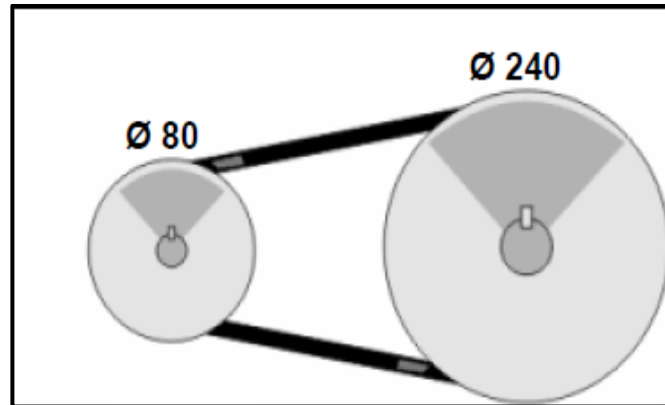

FIGURE 4.12
4.12 What is the velocity ratio of the pulley system in FIGURE 4.12 below if the smaller pulley is the driver pulley?